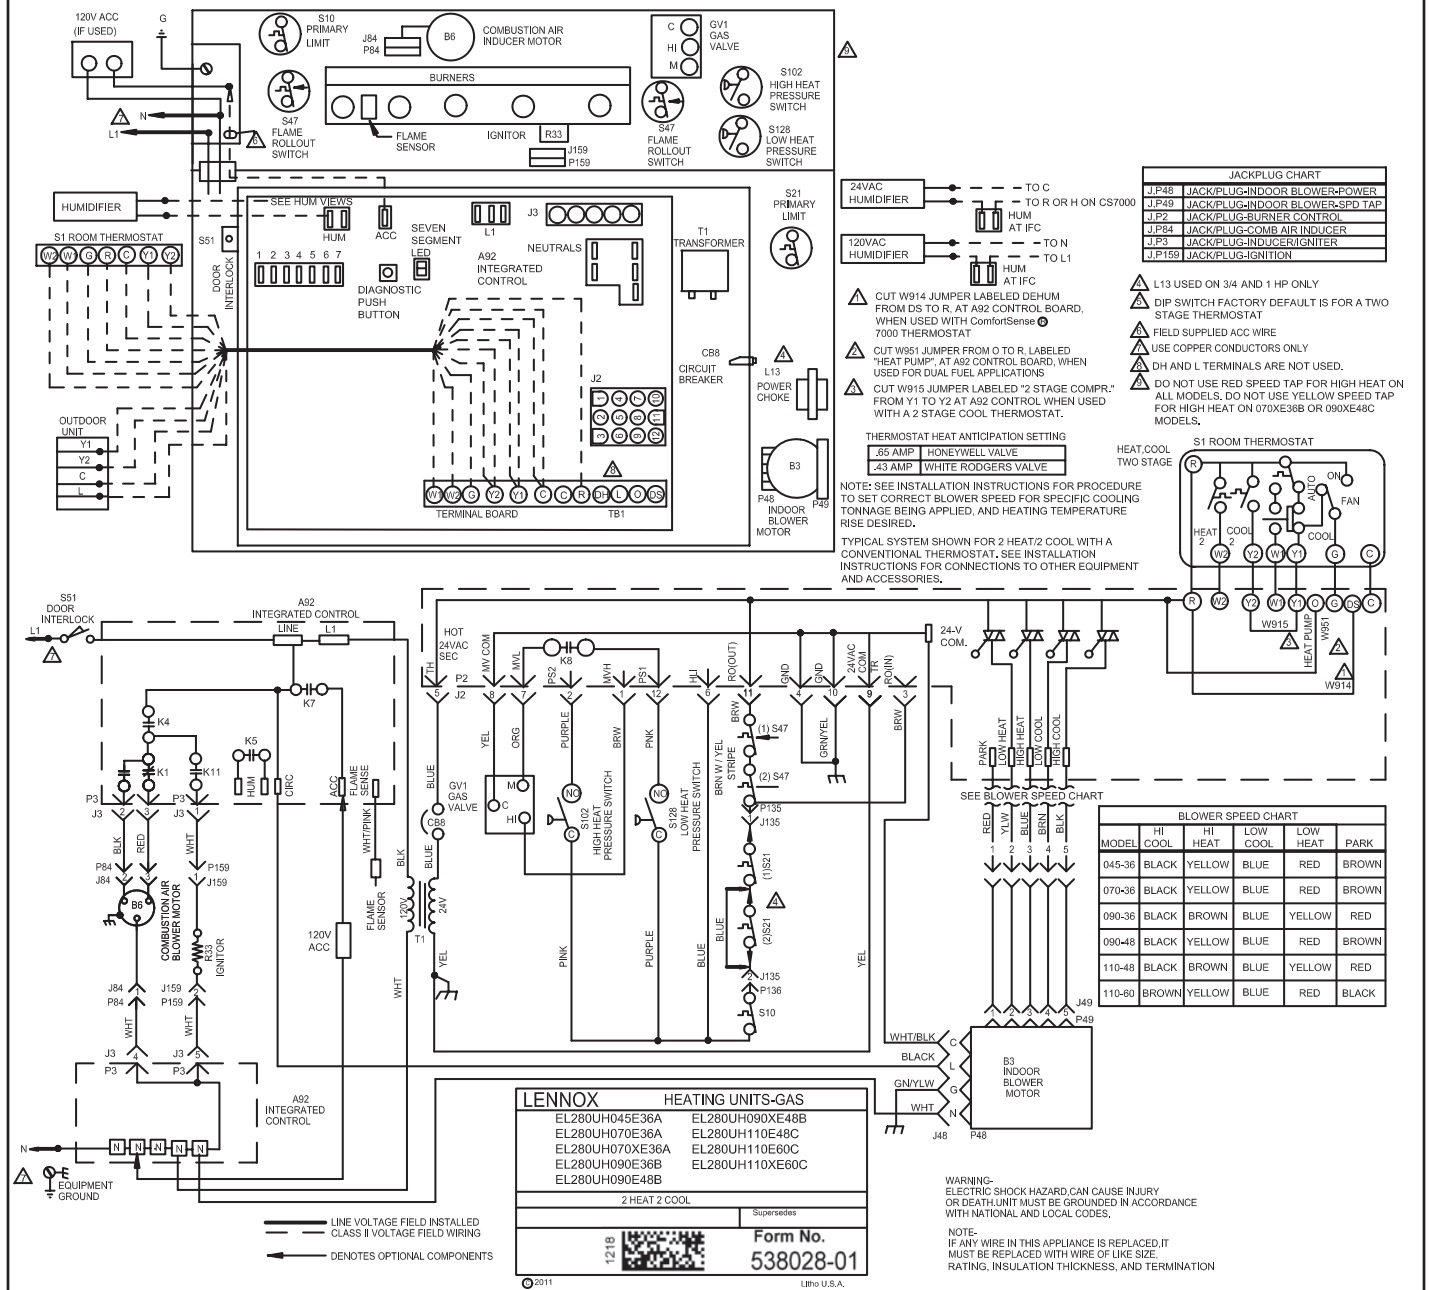

**FIGURE 26**
- 10 - Remove heat exchanger. It may be necessary to spread cabinet side to allow more room. If so, remove five screws from the left side or right side of cabinet. See FIGURE 26.